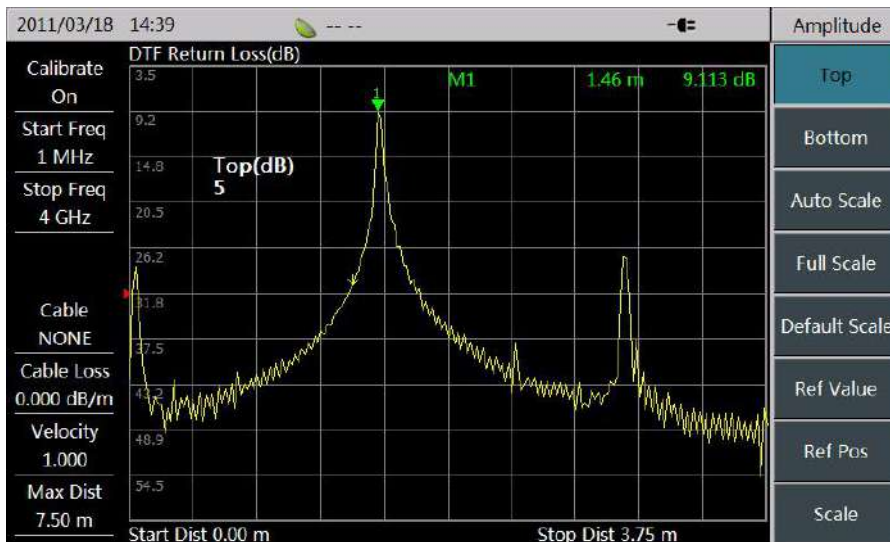

Figure 3-18 Input Top Amplitude Value
- Click the touch screen [Edit List] menu, and the menu bar will switch to the Edit List menu bar, as shown in Figure 3-18. Click the [Add Seg] to add a waveband to be swept in the list box; in this case, users can set this segment of list by [Start Freq], [Stop Freq] and [Points]. If the list is already existed, users can set the parameters with correspondence to the segments by [Seg ID] or click the relevant segment number on the touch screen;